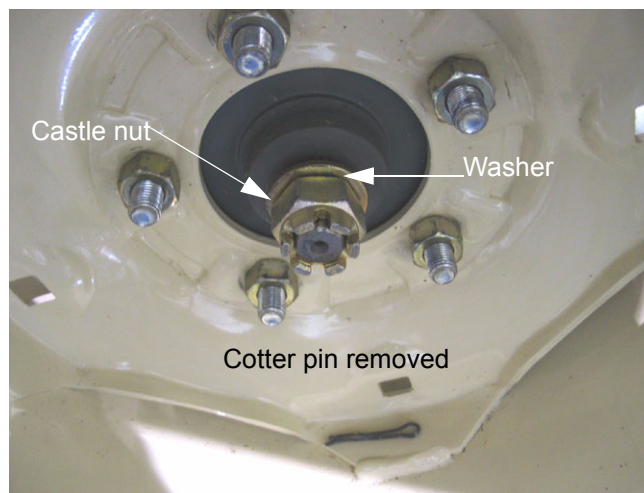

Figure 9.2
- 9.2. Set the parking brake, and remove the castle nuts and washers using a 27 mm socket. See Figure 9.2.